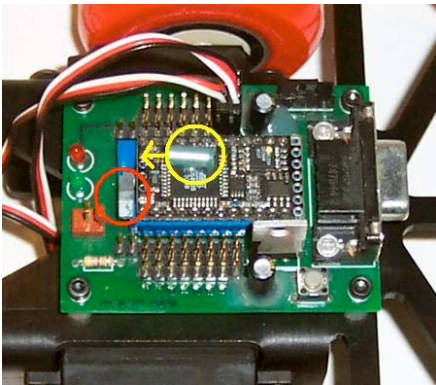

Figure 17.
It is imperative that the lightest colored wire is closest to the BX-24 (22) as shown in Figure 17.